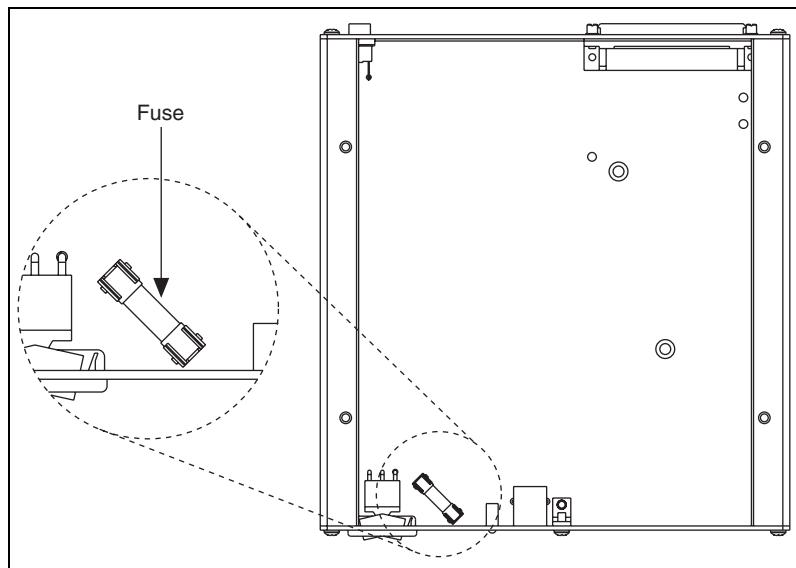

Figure A-16. USB-6251 Mass Termination Fuse Location
2. Replace the fuse while referring to Figure A-16 for the fuse location.